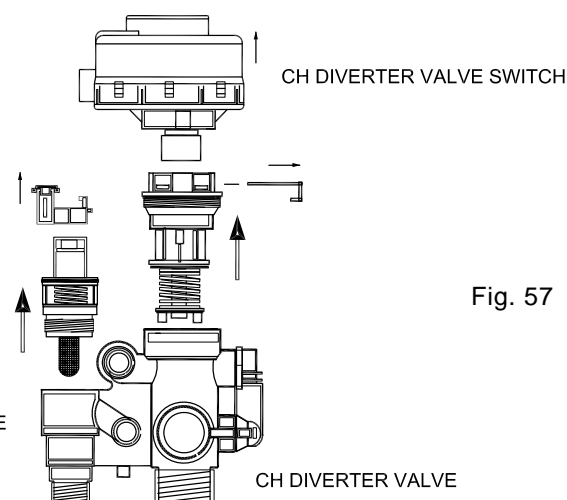

Fig. 57
7.21.2 Detach the electrical plug and remove the retaining clip (Fig.57).
## TO REMOVE/REPLACE C.H. DIVERTER VALVE (fig. 57).
**7.24.1 TO REMOVE/REPLACE DHW DIVERTER VALVE (fig. 57).**